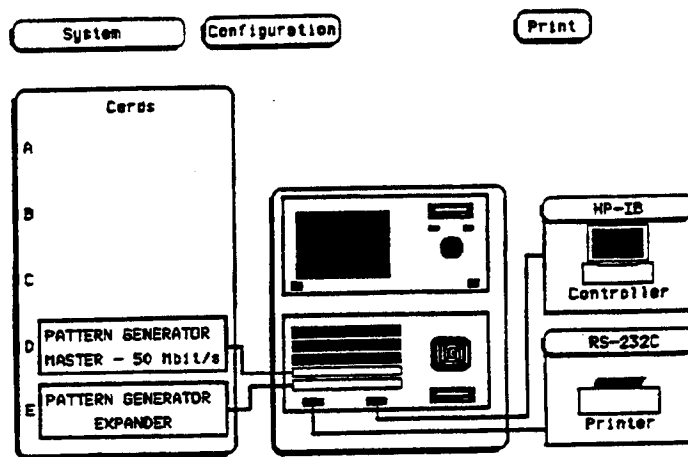

Figure 6-4. Startup Screen
- From the startup screen shown in figure 6-4, touch Configuration field, then touch Test.